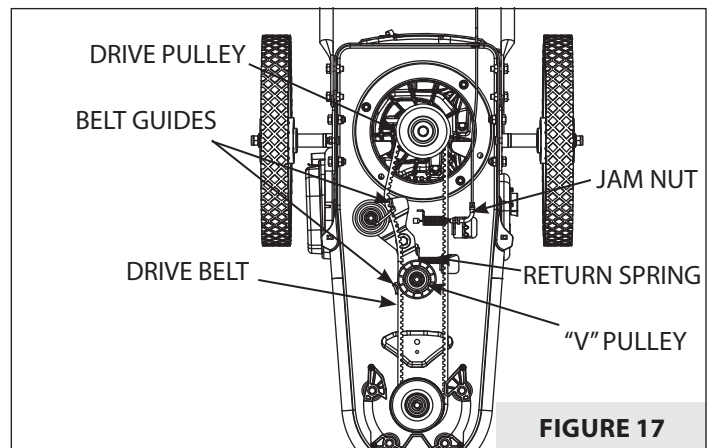

FIGURE 17
**NOTE:** A second cable adjustment can be found under the mower deck if the unit still is not properly engaging after first adjustment. SEE FIGURE 17.